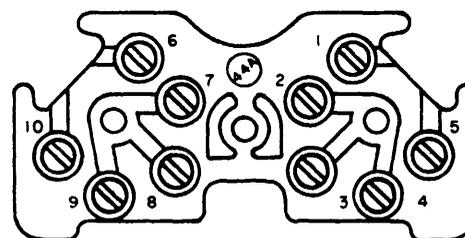

Figure 13. Number 44A Connecting Block.
3.02 The number 44A connecting block (Figure 13) is a ten-conductor device intended for use singly or in groups of from two to four for the termination of line cords for multiline telephone sets. As originated by WECO, it consisted of a molded phenolic block arranged with two circular mounting bosses to support the under surface approximately one-fourth inch above that on which the block is mounted. A shallow indentation in the bottom edge is arranged to mate with the protruding upper edge of the adjacent block when several are mounted together. A further indentation at the center of the bottom edge, beveled on the under side of the block, provides for the entry of the line-cord conductors. These conductors pass beneath the block in two groups, past the outer sides of the two mounting bosses, fan out into two slots molded at the upper corners, and are routed back over the upper surface of the block to their respective terminal screws. A molded groove adjacent to each screw provides clearance for the ferrule portion of the cord conductor spade terminal. An arc-shaped indentation at the center of the top edge provides for entry of inside wiring cable. The wiring cable passes beneath the block between the two mounting bosses, fans out along the bottom edge (or, on intermediate blocks, at the indentation otherwise intended for the line cord) and is connected, conductor by conductor, across the upper surface of the block to the terminal screws.